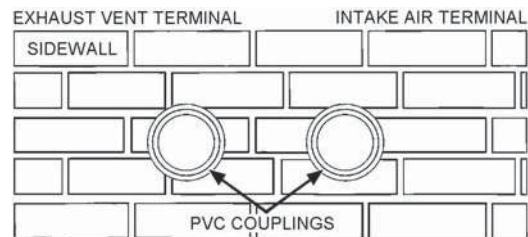

Figure 18
6. If the air intake pipe is installed up to the wall, with a coupling on the end against the wall opening, the pipe with the air intake terminal can be prepared for gluing before inserting through the wall. Slide the pipe through the wall and insert into coupling on the other side of the wall. See Figure 18 and Figure 19.